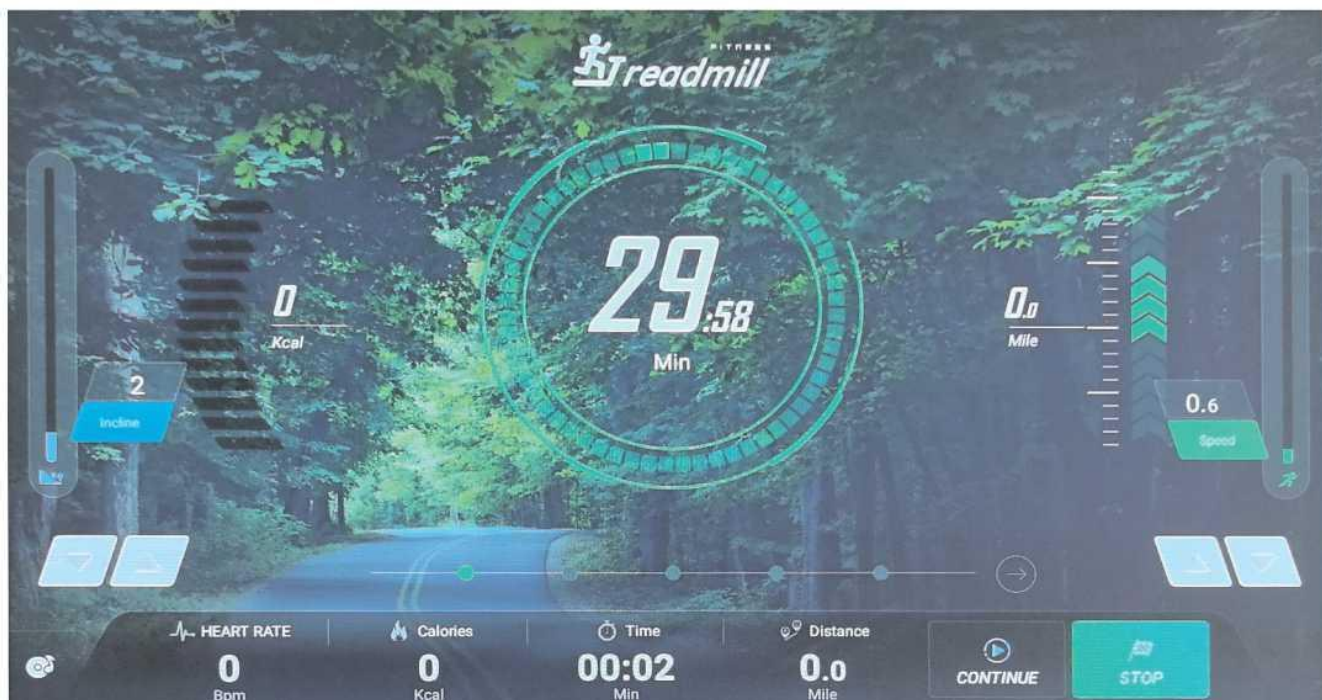

FIG. 11 Sport Page (Slope Adjustment)
- 7) Slope adjustment - click the slope add or subtract button at the bottom to pop up the slope adjustment operation interface. Slide on the interface to quickly adjust the slope and hide automatically without operation for 5 seconds, as shown in FIG. 11;